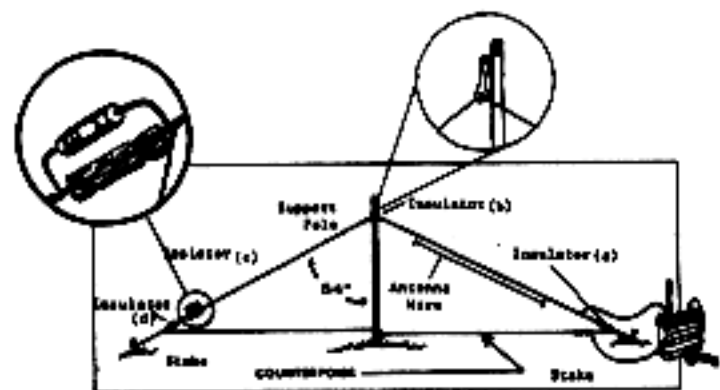
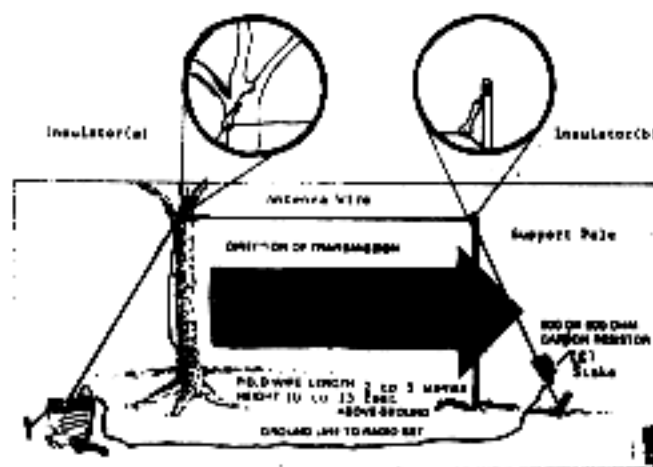
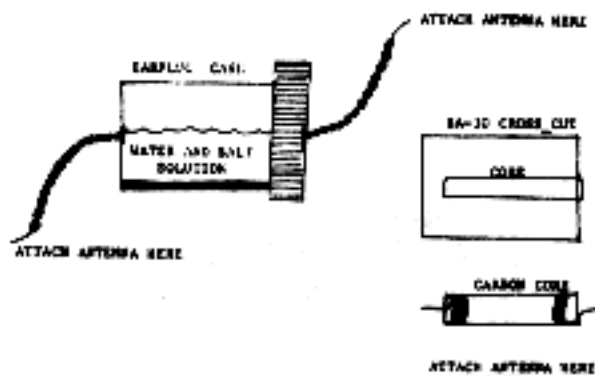

Figure 7-5. Vertical half-rhombic antenna.
Figure 7-6. Long-wire antenna
Figure 7-7. Expedient resistors. 500 to 1000 ohms (approx.)
d. Expedient Directional Antennas. The vertical half-rhombic figure 7-5, and the long wire antenna figure 7-6, are two expedient directional antennas. These antennas consist of a single wire, preferably, 2 or more wavelengths long, supported at a height of 3 to 7 meters (10 to 20) feet above ground. The antennas will, however, operate well as low as 1 meter above ground. The far end of the antenna is connected to a resistor of 500 to 600 ohms. Your commo sergeant can assist you in getting a resistor or you can fabricate one as in figure 7-7. A good ground, such as a number of tent stakes driven directly under the antenna or a counterpoise should be used to ensure that the earth does not absorb most of the radio's output. The radiation pattern is directional towards the end with the resistor.
f. **Expedient Long Wire Antenna.** The expedient long wire antenna is a directional antenna that can be easily fabricated out of readily available materials. A 500 to 700 ohm resistor should be used at the far end of the antenna; this can be acquired from your commo sergeant or made as in figure 7-7. To construct this antenna, cut the antenna wire (ND-1) to a minimum of 2 and up to 5 full wavelengths of your operating frequency. Attach one end of the wire to the long whip base of the radio set then run it thru the insulator as shown in figure 7-6(a); run the wire thru the second insulator 7-6(b) down to the resistor 7-6(c) and terminate the antenna wire at the ground stake. Attach another wire to the opposite end of the resistor and run this wire back to the radio set and attach it to the radio set case (ground). Direction of transmission will be towards the end of the antenna with the resistor. Turn on radio and attempt communications.
a. An old cylindrical type ear-plug case makes the simplest and most adequate resistor. To make a resistor, cut the chain on the earplug case close to the center. Open the case and fill it with water from your canteen, pour 1 to 2 packets of salt from your MRE accessory pouch into the water and reseal the container. Attach one end of the antenna wire to one side of the earplug case figure 7-7, attach the other side of your antenna wire to the opposite side of the earplug case and complete the circuit as in the instructions for the specific antenna.